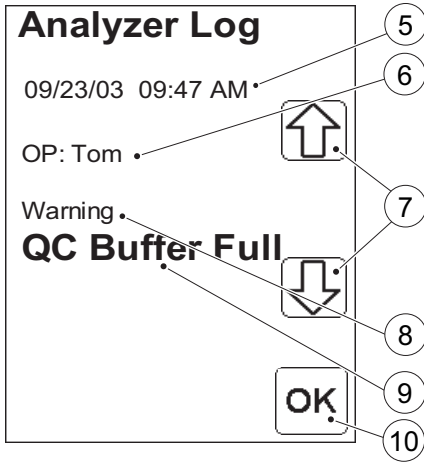

FIGURE 7-19
The From date (1) and To date (2) displayed represent the earliest and latest stored Logs. It is possible to change the date interval. If no change is required press Confirm (4). *FIGURE 7-19* will then be displayed.
- If required, change the From date (1) via the Digit buttons (3). Press Confirm (4).
- Repeat the step a) for the To date (2).
- FIGURE 7-19* will be displayed.